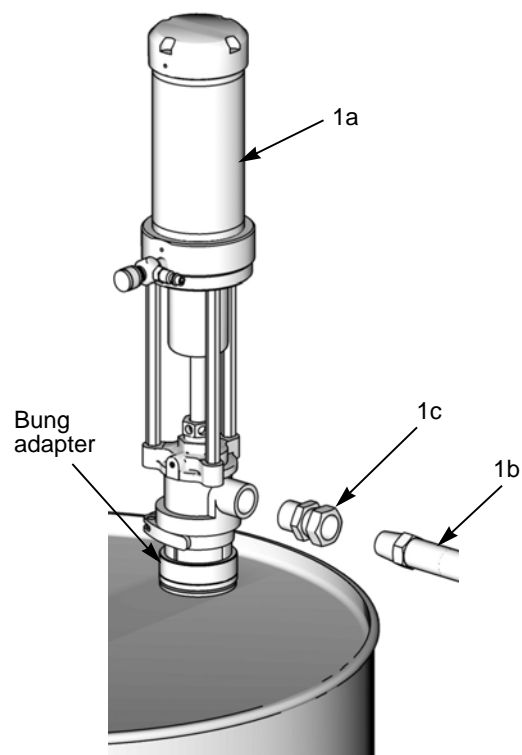

FIG. 4. Standard 2:1 Kit
3. Install swivel fitting (1c) in pump fluid outlet. See FIG. 4.